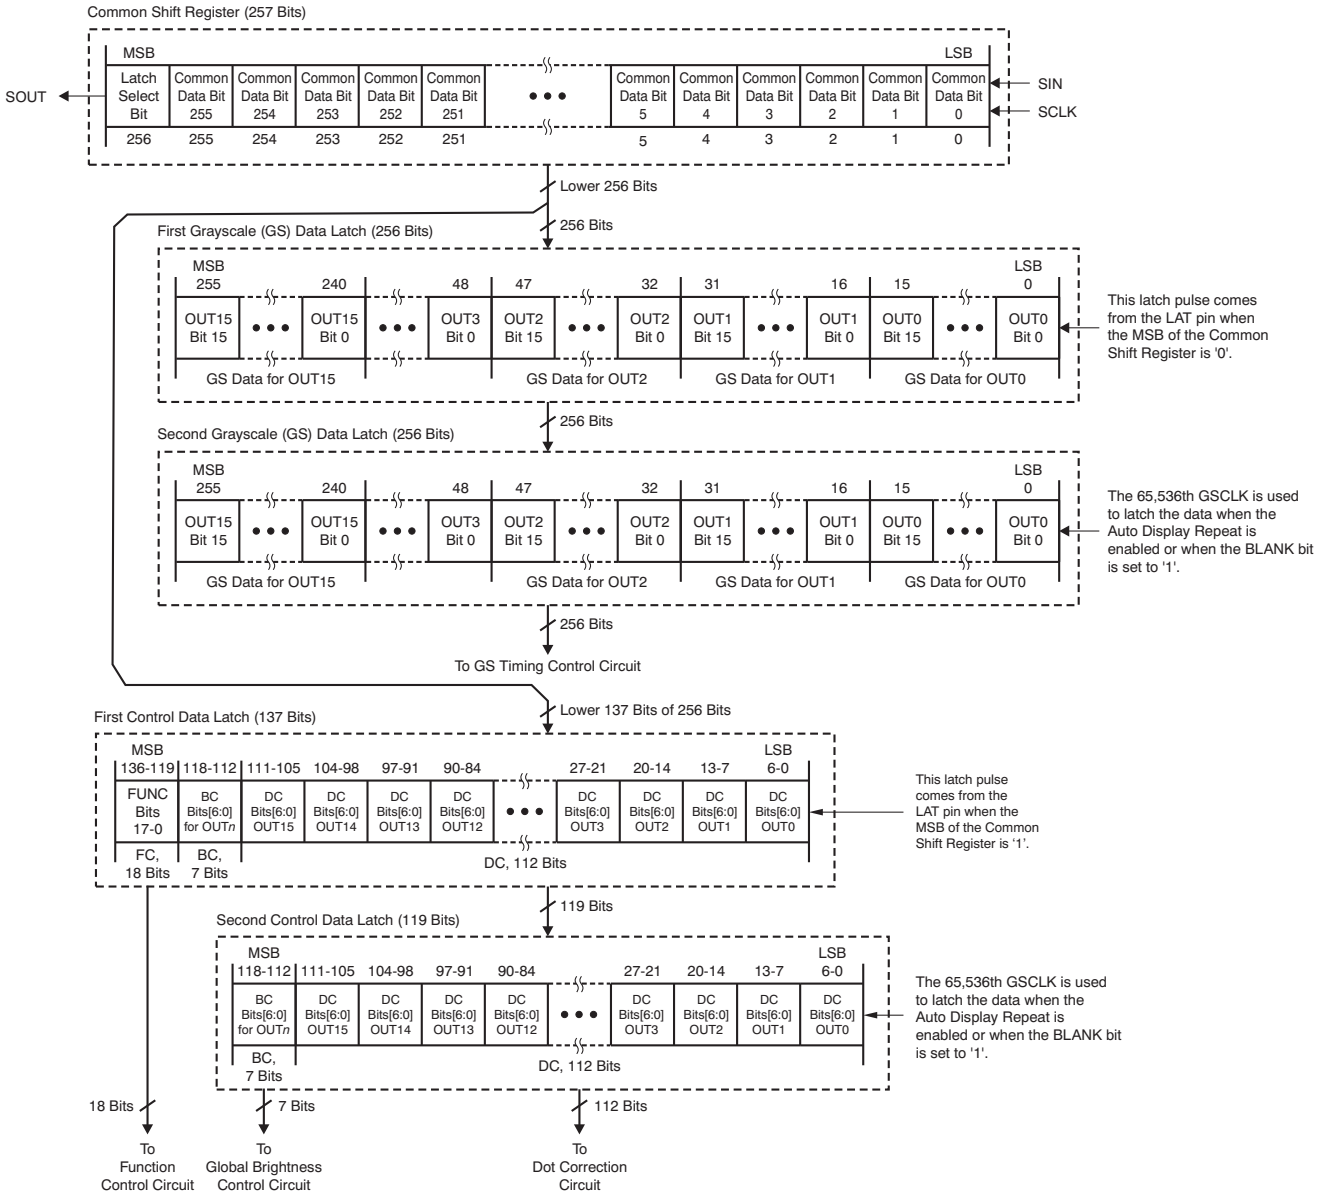

Figure 30. Common Shift Register and Control Data Latches Configuration
The TLC5948A has one common shift register and two pairs of data latches: the first and second grayscale (GS) data latches and the first and second control data latches. The common shift register is 257 bits long and the GS data latches are 256 bits long in total. The first control data latch is 137 bits long and the second latch is 119 bits long. When the common shift register MSB is '0', the least significant 256 bits from the common shift register are latched into the first GS data latch. When the MSB is '1', the data are latched into the first control data latch. Figure 30 shows the common shift register and latch configurations.